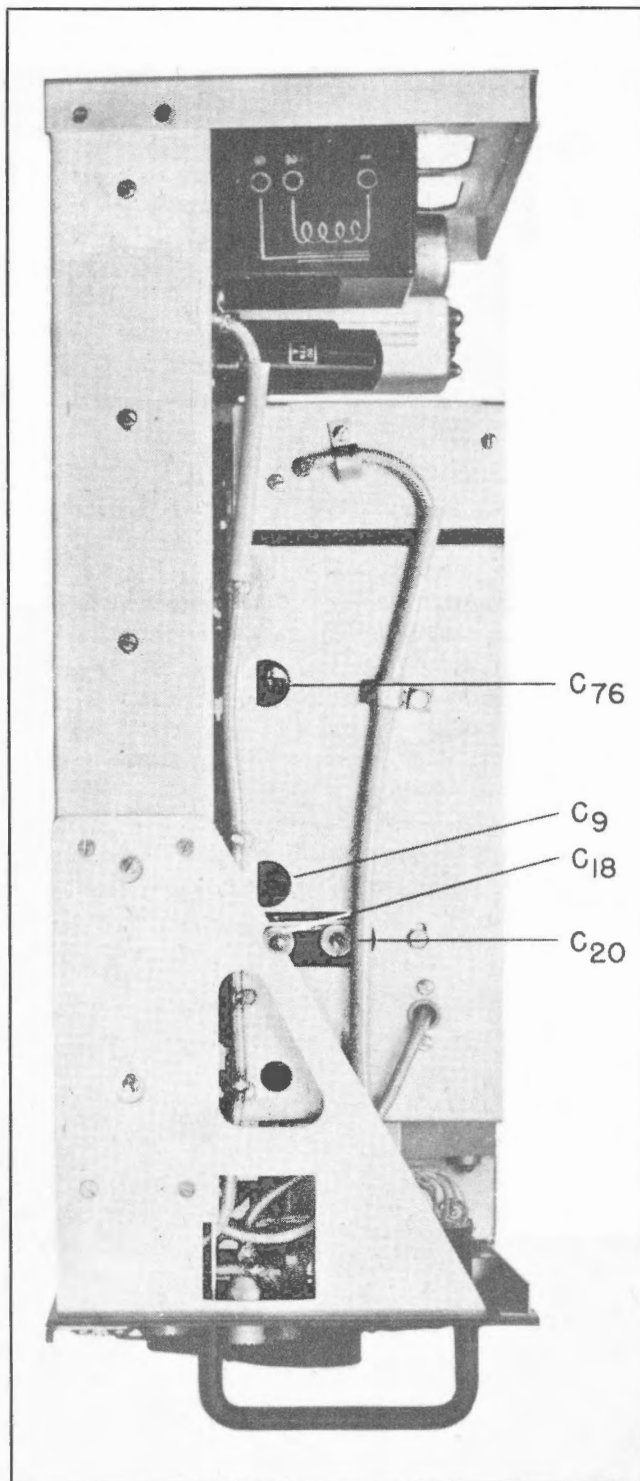

Figure 5-2—Radio Receiver R-44/ARR-5—Side View Showing Alignment Points
(1) With the signal generator connected as for i-f alignment above, set the generator's frequency to 5.25 megacycles and turn off the 400-cycle modulation.
(2) Turn the receiver's "B.F.O." switch to "ON" and back off the "A.F. GAIN" control slightly.
(3) Adjust the iron core screw on top of transformer T15 until a 1000-cycle note is obtained in the headset. The headset should replace the output meter from this operation. Note that the 1000-cycle note appears at the two settings of this screw either seating is usable. It merely means that the oscillator is set 1000 cycles above or below the i-f frequency.
e. R-F ALIGNMENT.—See figure 5-2 for location of alignment controls.
(1) Connect the signal generator to the antenna connector and wire the dummy antenna resistor (50-ohm noninductive resistor) across the generator terminals. Connect the output meter to the jack marked "PHONES."
(2) Set the controls on the receiver as for i-f amplifier alignment. (Refer to paragraph 2*b*(2), this section.)
(3) Turn on 400-cycle tone modulation on signal generator.
(4) Align the three bands as follows: